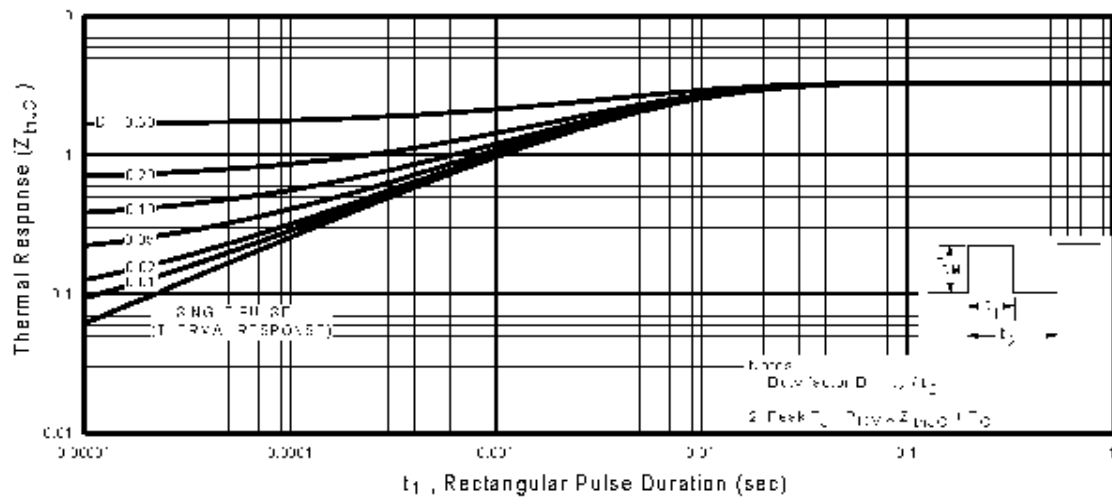

Fig 11. Maximum Effective Transient Thermal Impedance. Junction-to-Case
① Repetitive rating: pulse width limited by max. junction temperature. (See fig. 11)